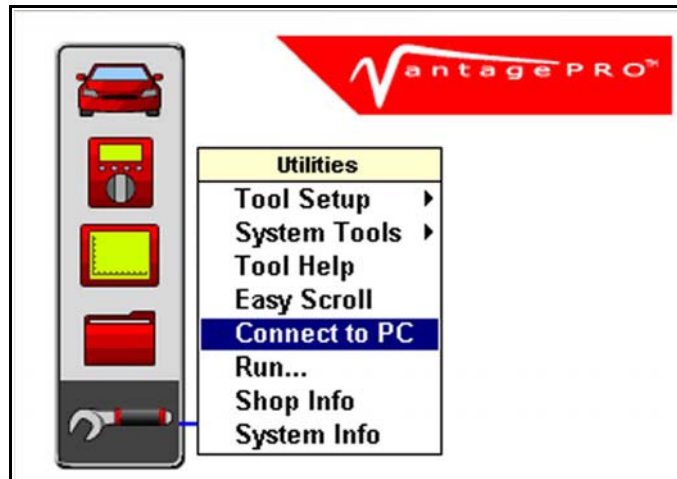

Figure 4-34 Vantage PRO utilities menu
2. From the Main Menu, navigate to **UTILITIES > Connect to PC** (Figure 4-34).